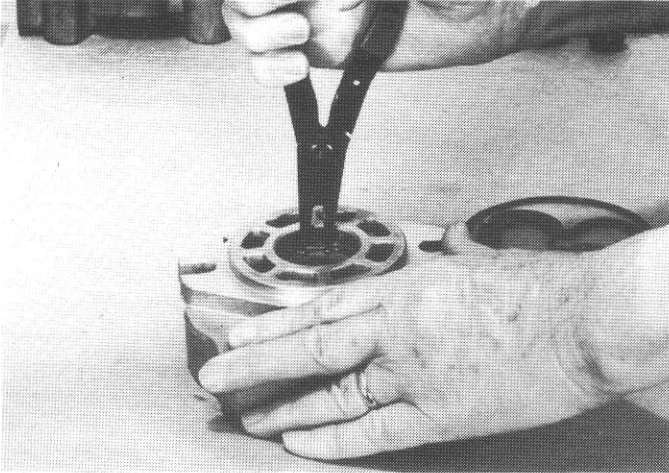

Fig. 2
5. Slide flange plate off the shafts and remove the plate o-ring, "E" shaped o-ring, and back-up strip. Also remove the shaft seal snap ring from seal bore. Pumps with mounting adaptors do not get shaft seal snap ring. (Fig. 2)